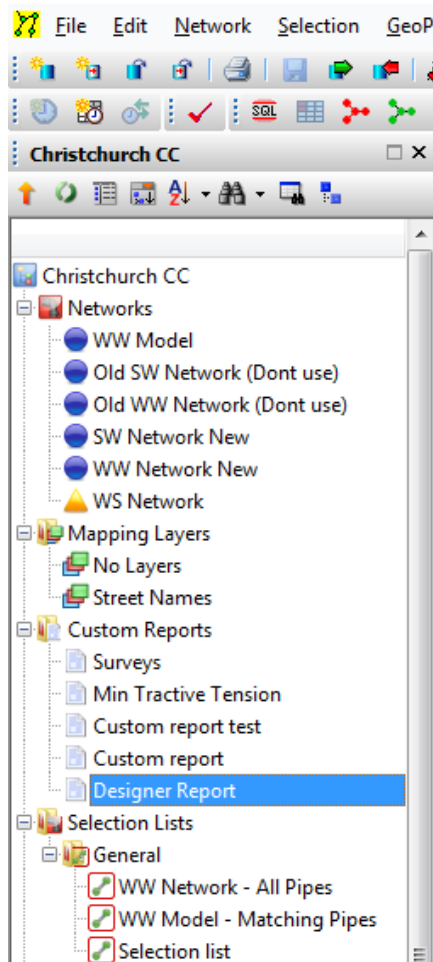

Figure 10 - Infonet Screenshot 5
13. Drag and drop “Designer Report” on to the plan view (under the Custom Reports tab). See Figure 10.